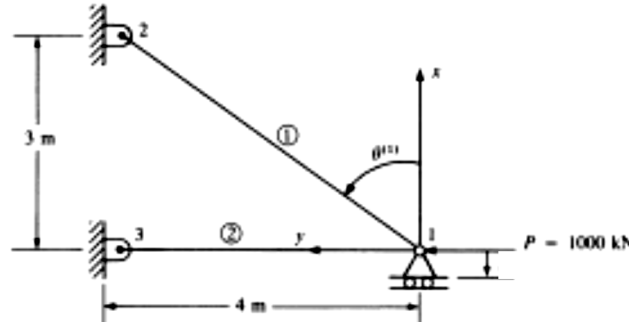

Figure 3
- (b) For the two-bar truss shown in Figure 3, determine the displacement in the y direction of node 1. A force of $P = 1000 \text{ kN}$ is applied at node 1 in the positive y direction. Let $E = 210 \text{ GPa}$ and $A = 6 \times 10^{-4} \text{ m}^2$ for each element. [7M]